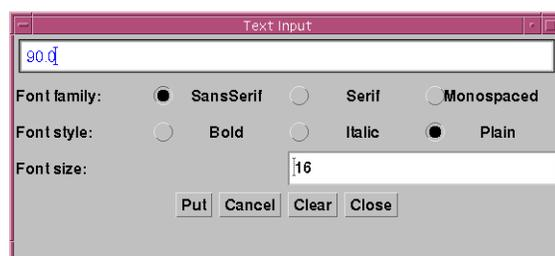

Figure 82. Text Input Window
1. Click on the text input tool  to open the Text Input window shown in **Figure 82**.